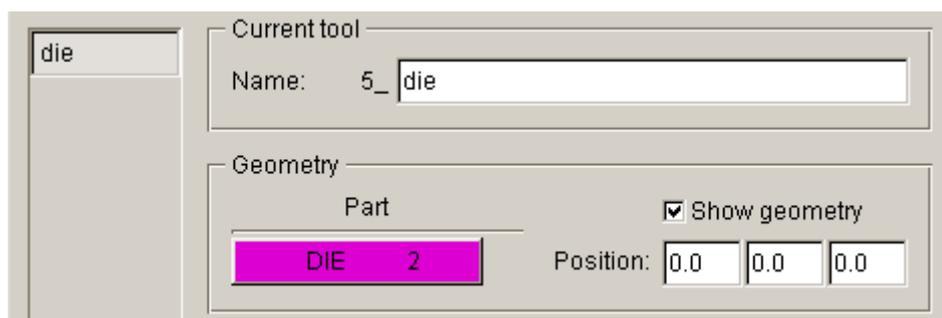

Figure 4.18 Die definition interface
8. Click **Exit** button to return to tool definition interface. Now, you can observe the font color of **die** is changed to BLACK. See Figure 4.18.